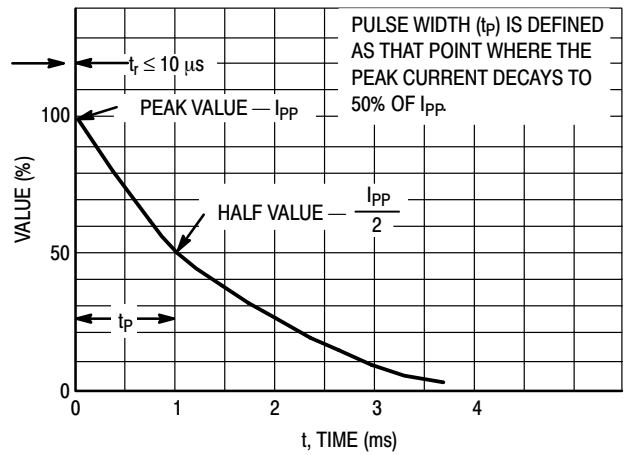
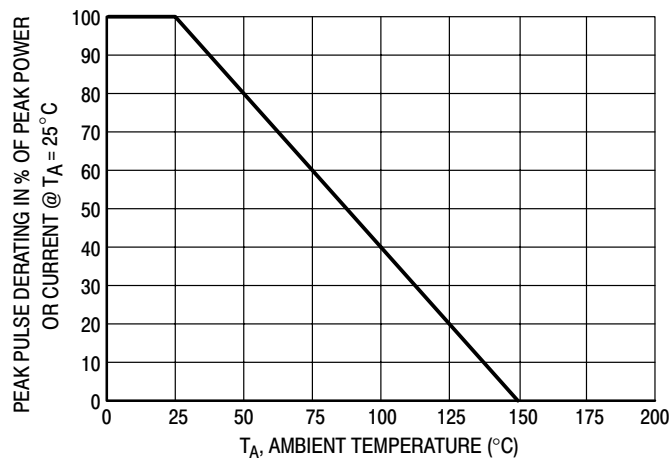

Figure 5. Pulse Waveform
Figure 6. Pulse Derating Curve
- Peak Power – 40 Watts @ 1.0 ms (Bidirectional), per Figure 5. Waveform
1. Non-repetitive current pulse per Figure 5. and derate above $T_A = 25^\circ\text{C}$ per Figure 6.
5. Surge current waveform per Figure 5. and derate per Figure 6.